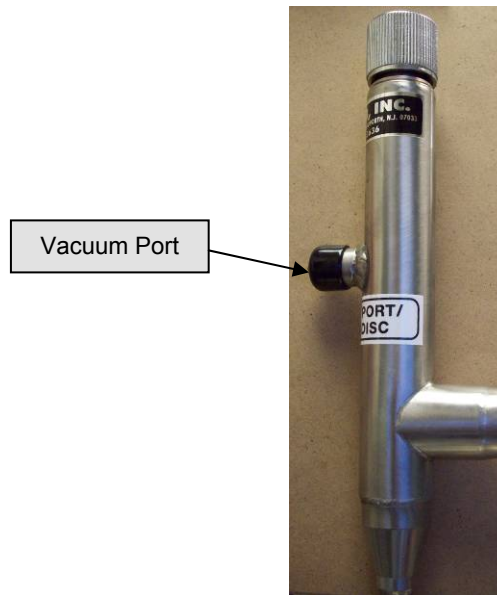

Figure 7-13: Evacuation port
- Thread the handle into the evacuation port plug. **See Figure 7-13.**